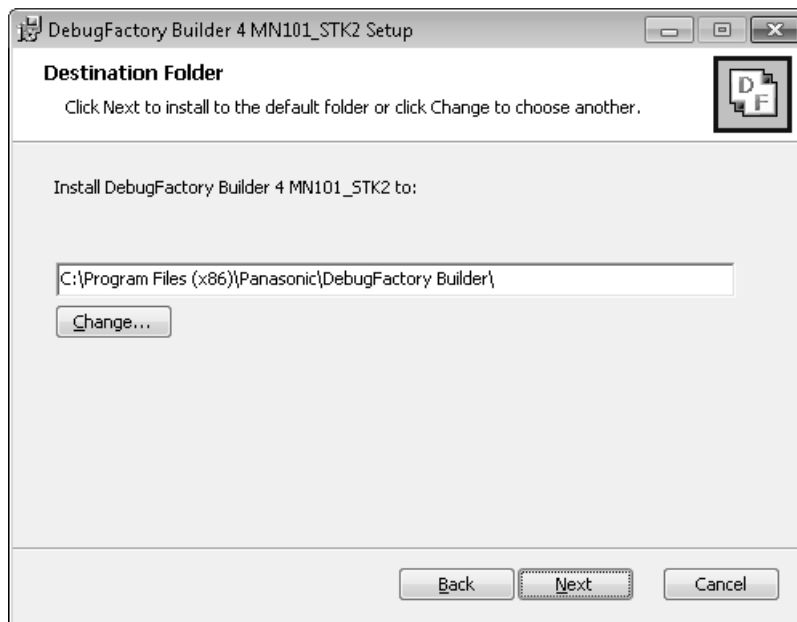

Figure 2.1.5 Choose Destination Folder
5. The dialog shown in Figure 2.1.5 appears. Confirm the destination folder where the software tools will be installed, then click <Next>. If you want to install in a different folder, click <Change...> to specify the folder.